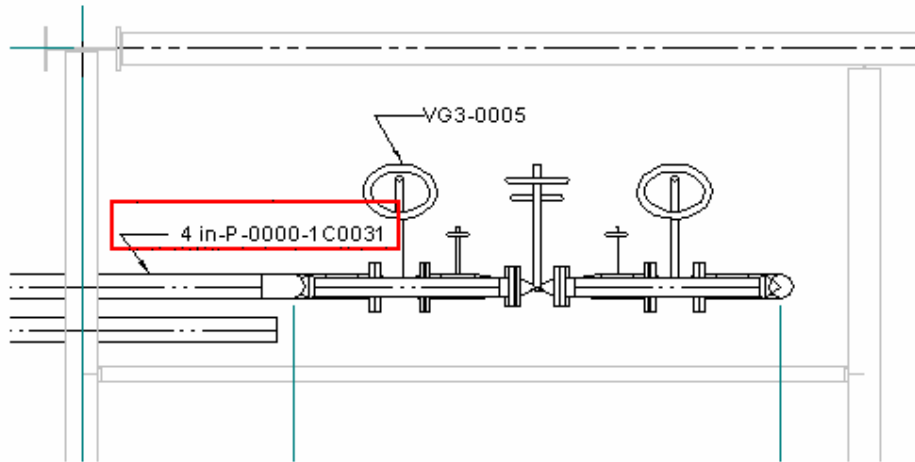

*Figure 4: Options Dialog Box*
- **Dimension Text:** Overrides a driven dimensional value with a text string. A driven dimension is a dimension that is placed as you draw in **2D Drawing Editor**. To place this dimension, you need to select the **Dimension key-in values automatically** option, which is accessed by clicking the **Tools > Options** menu command and then the **General** tab of the **Options** dialog box, as shown in Figure 4.